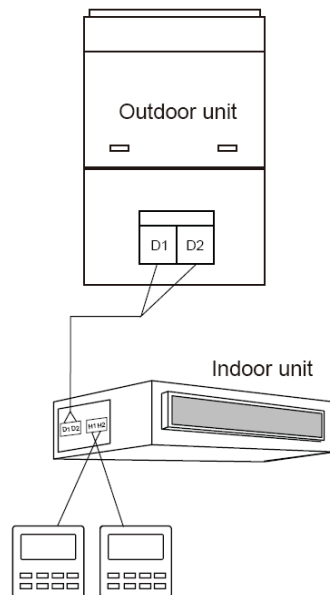

Fig. 5.4 Two wired controllers control one indoor unit
- (1) When one wired controller controls multiple indoor units simultaneously, the wired controller can connect to any one indoor unit, but the connected indoor unit must be the same series indoor unit. The total quantity of indoor unit controlled by wired controller can't exceed 16 sets, and the connected indoor unit must be within the same indoor unit's network. Wire controller must set quantity of group control indoor units. Please refer to 5.2.3 Parameters Setting.
- (2) When two wired controllers control one indoor unit, the addresses of those two wired controllers should be different. Please refer to 5.2.3 parameter setting.
- (3) When two wired controllers control multiple indoor units, wired controller can connected to any one indoor unit, while the connected indoor unit should be the same series indoor unit. The addresses of those two wired controllers should be different. Please refer to 5.2.3 parameter setting. The total quantity of indoor unit controlled by wired controller can't be more than 16 sets and all connected indoor units must be within the same indoor unit network. Wire controller must set quantity of group control indoor units. Please refer to 5.2.3 Parameters Setting.
- (4) When one (or two) wired controller(s) control(s) multiple indoor units at the same time, the controlled indoor unit's setting should be the same.
- (5) Wiring of wired controller and indoor unit network must be according to one of the four wiring method as shown in fig 5.3-5.6. As for the connection method shown in fig 5.4 and 5.6, there should be only one master wired controller (address is 01) and one slave wired controller (address 02). The quantity of wired controller can't exceed two.